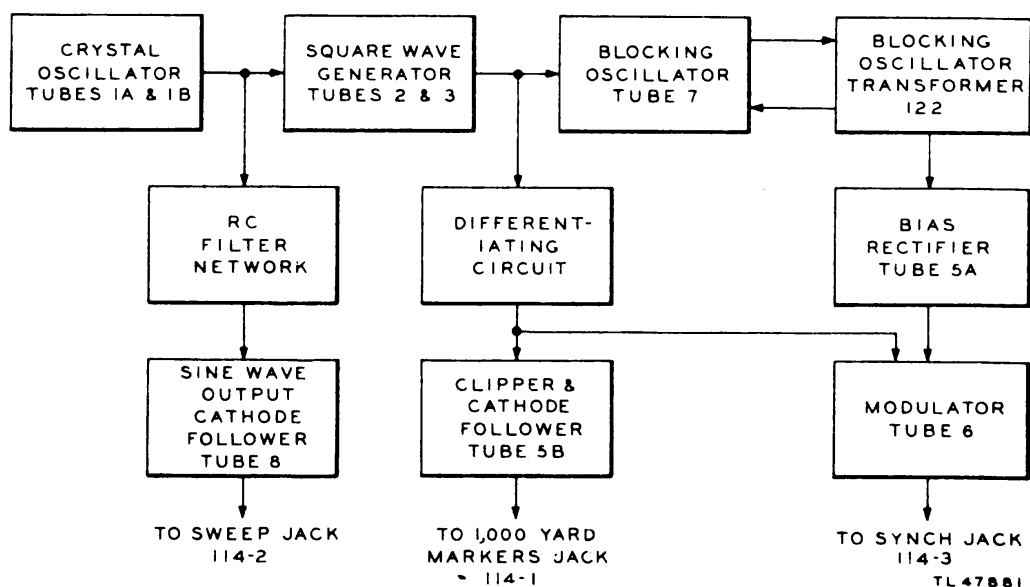

Figure 37. Range Calibrator I-223-A, block diagram.
47. RANGE CALIBRATOR I-223-A (fig. 37).